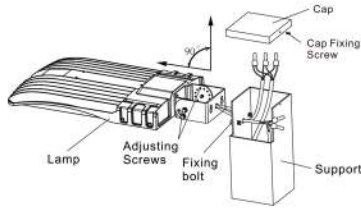

Figure 2-1
- 1: Loosen cap fixing screw and take cap off. Loosen fixing bolt, fixed the fixture on the support and tighten fixing bolts. (Figure 2-1)
- 2: Let the AC wire go through support hole and connected correctly. Close cap and tighten cap fixing screw after AC cable is well placed in the support. (Figure 2-1)
- 3: Loosen adjusting screws, align the fixture to required angle and fasten the screws. (Figure 2-1)